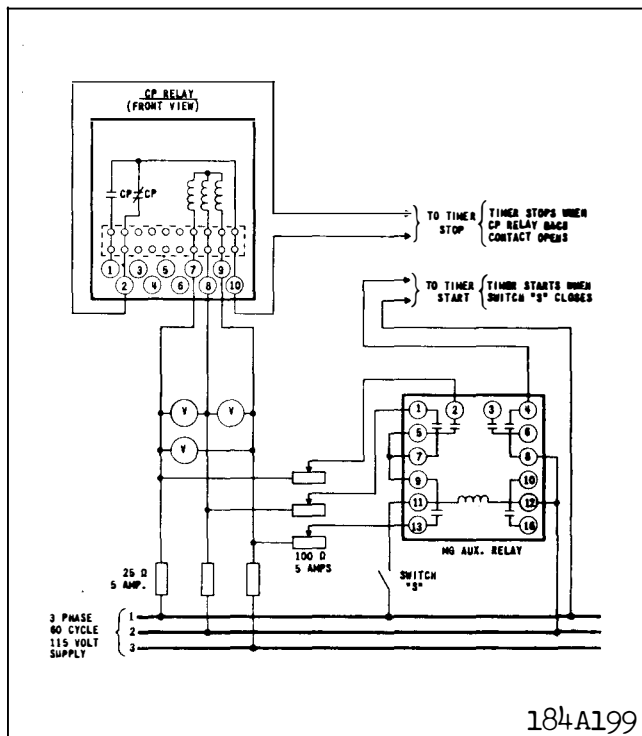

Fig. 8. Diagram of Test Connection for checking the Undervoltage Time Curves of the Type CP Relay.
3. **Time Curve** – The time curve can be checked by the use of the circuits of Figs. 8 and 9.
3. Time Curve Calibration – Install the permanent magnet and connect the relay as per the circuit of Fig. 8.